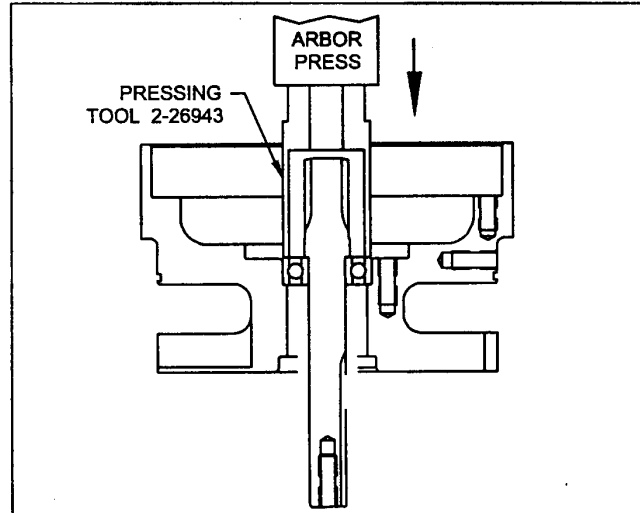

Figure 11. Turbine Shaft Installation
Press the turbine bearing/shaft assembly (8,22) into the turbine housing (19). Use press tool P/N 2-26943 if required per figure 11. Do not press on the end of the shaft because the load could damage the balls of the bearings.